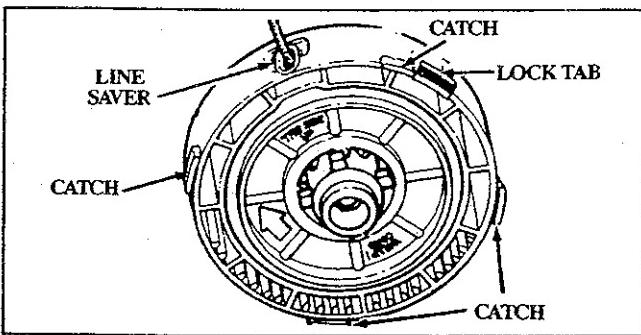

Figure 18
- e. Make sure the line saver is in place and installed correctly, then insert the end of the line in the line saver as shown in Figure 18. Place spool in housing. Press spool down. Turn and lock spool under lugs on drive gear.
- f. Replace the tap button; press lock tab and install the lock ring. Turn the lock ring clockwise → and fasten under all four catches on the housing. Figures 18 & 19.